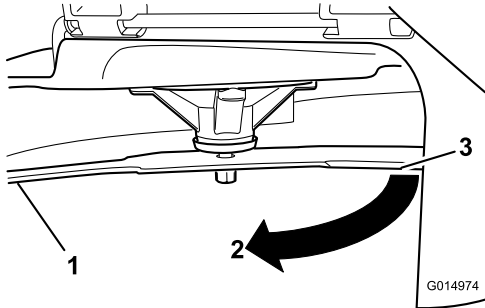

**Figure 74**
5. Measure from the tip of the blade to the flat surface (Figure 74).